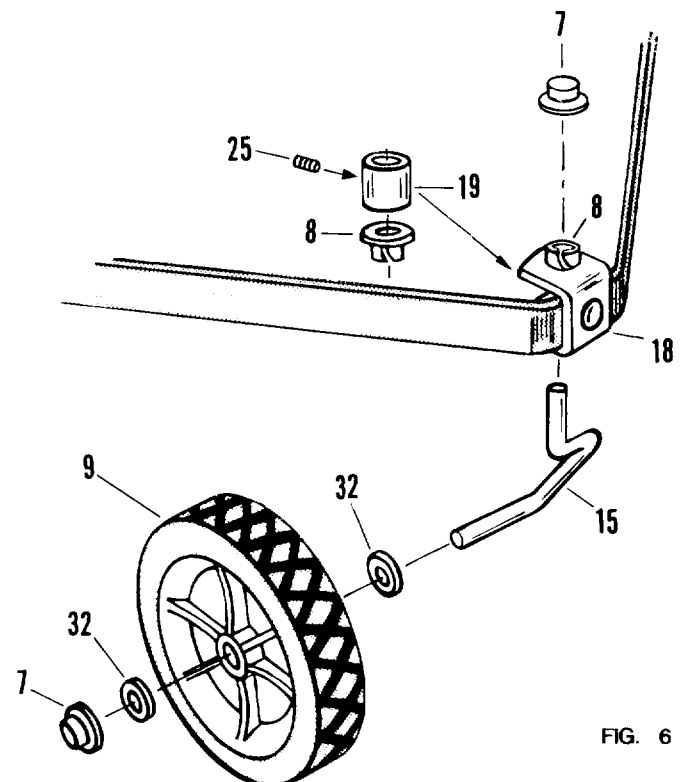

FIG. 6
Fig. 6. Assemble the gauge wheel (9) and axle (15) to the wheel mount bracket (18) as follows: slide one 1/2" I.D. flat washer (32) on to the short end of axle (15), followed by the gauge wheel (9), with hub facing out, and another 1/2" flat washer (32) and then "tap" the push nut (7) on the shaft with a hammer.